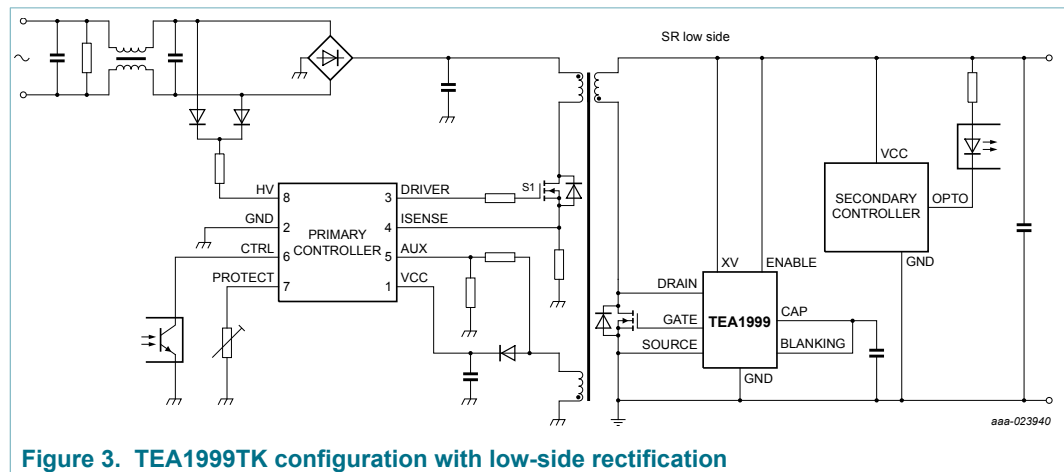

Figure 3. TEA1999TK configuration with low-side rectification
The TEA1999TK is a controller IC for Synchronous Rectification (SR) in flyback applications. It can drive the external synchronous rectifier MOSFET for the rectification of the voltage on the secondary winding of the transformer. Figure 3 shows a typical configuration.